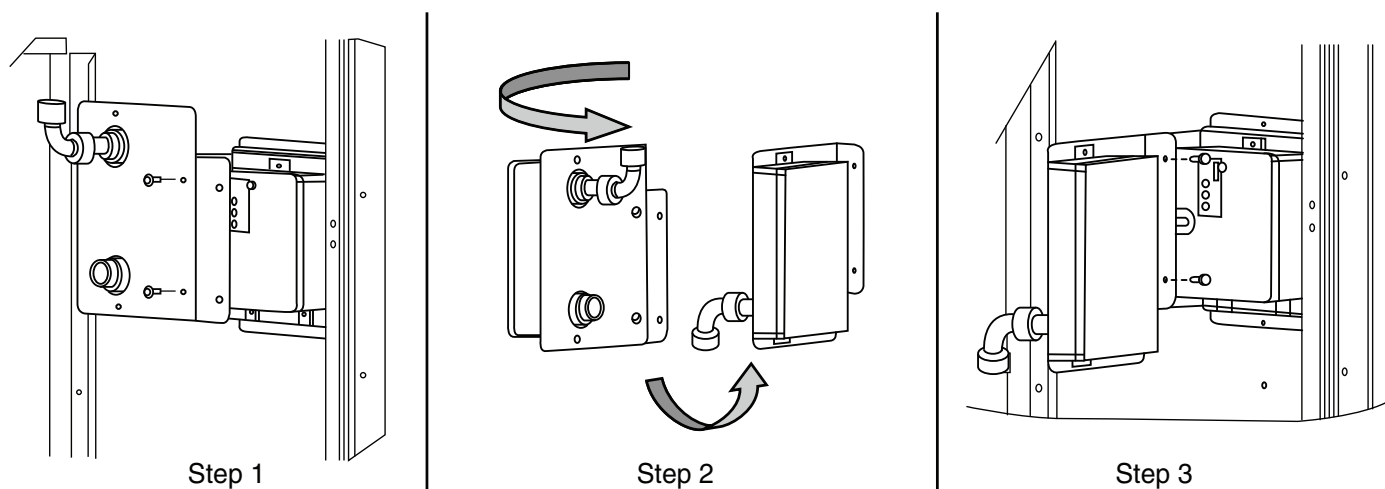

Fig. 51 — Completing Installation of Return Air Smoke Sensor
1. Unscrew the two screws holding the Return Air Smoke Detector assembly. See Fig. 51, Step 1. Save the screws.
2. Turn the assembly 90 degrees and then rotate end to end. Make sure that the elbow fitting is pointing down. See Fig. 51, Step 2.
3. Screw the sensor and detector plate into its operating position using screws from Step 1. See Fig. 51, Step 3.